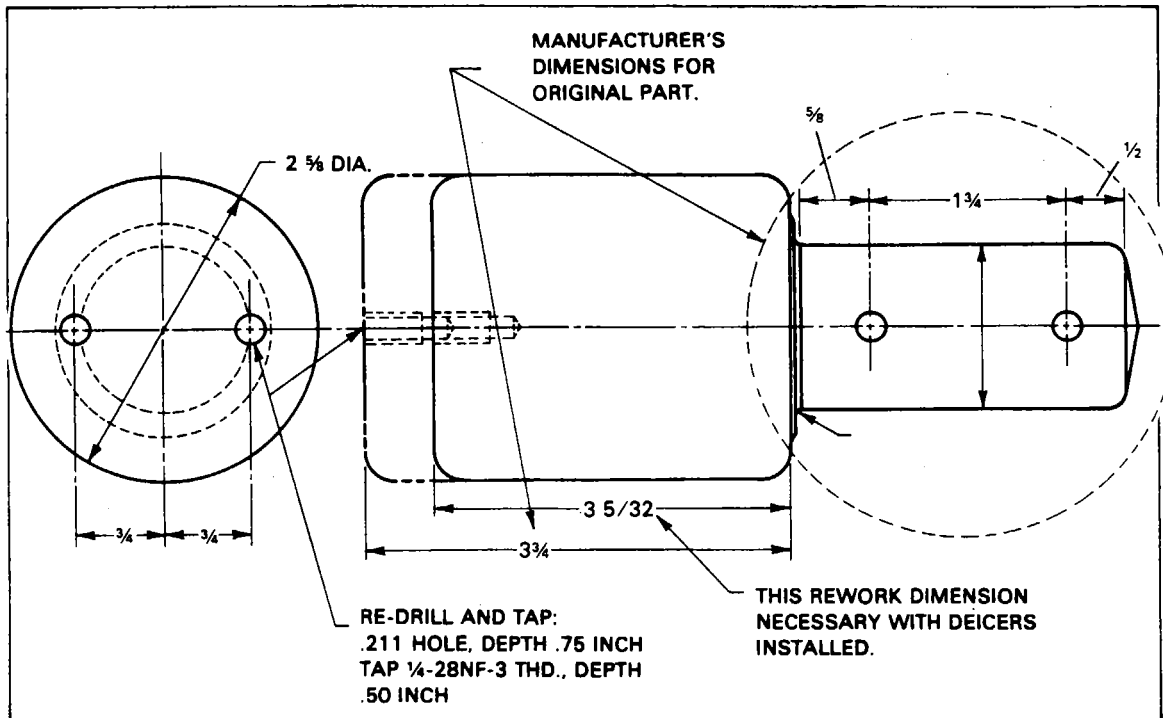

Figure 4-15. Stabilator Balance Weight - Rework
2. Rework balance weight as per figure 4-15.